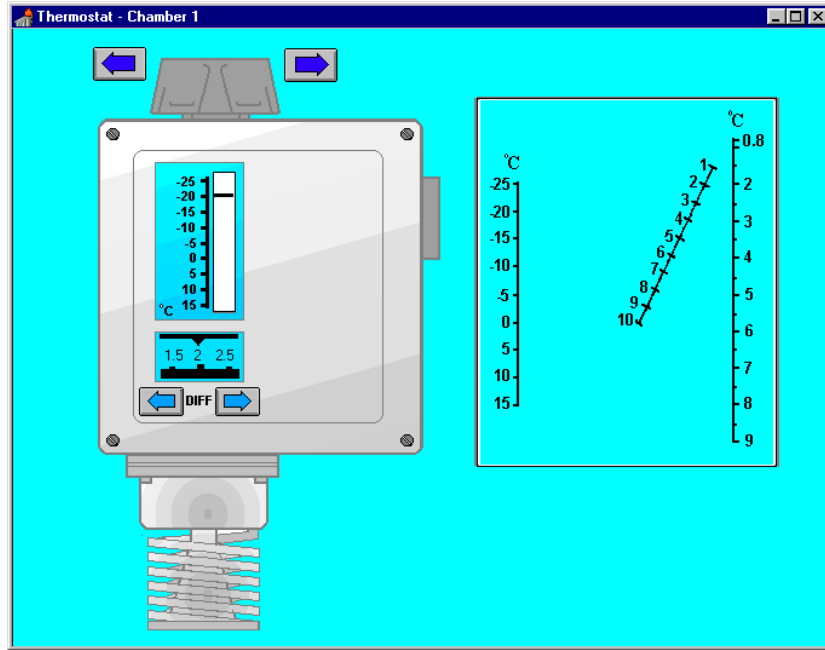

Fig. 5.7 Thermostat diagram /TER/
2. During compressor standing, in the event the temperature in chambers increases over the set temperature on TER Fig. 5.7, thermostat causes the solenoid valve opening and the fan switches on.